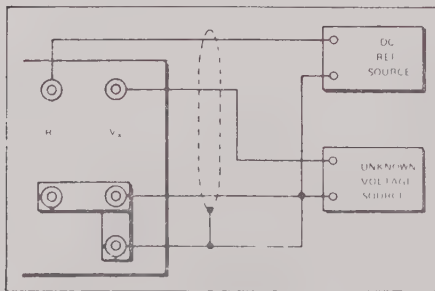

Figure 2-4 DMM Connections for RATIO Measurement
4. Install links as shown in Figure 2-4.
5. Connect voltage input signal to the front panel Vx connectors as in Figure 2-4.
6. Connect the reference voltage input signal to the front panel Rx connectors as shown in Figure 2-4.